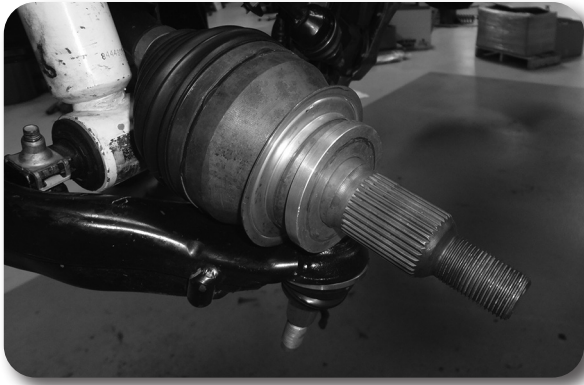

Figure 38A
57. Install the CV shaft spacer (05037) on the CV stub shaft with the chamfered edge facing towards the inside of the vehicle **Fig 38A**. Install the assembled knuckle on the lower control arm and loosely fasten with the original lower control arm nut **Fig. 39B**. Install the CV shaft assembly in the hub, swing the whole assembly up and attach to the new upper control arm to the knuckle assembly using the OE Nylock Nut. Snug up ball joint using the OE Nylock Nut, but do not torque down. The upper ball joint will be removed from the knuckle later so that the strut can be installed.